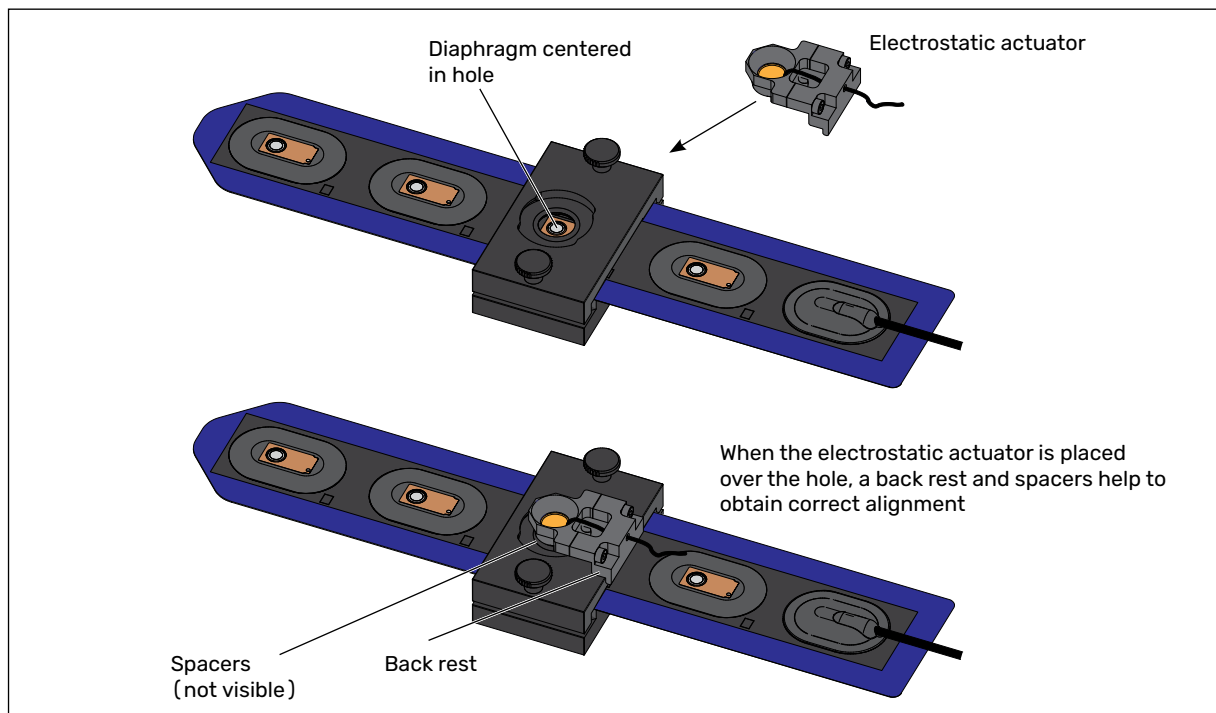

Fig. 7. Placing the electrostatic actuator onto the line array calibration adapter.
The electrostatic actuator is easy to mount, you simply place it on top of the adapter as shown in Fig. 7 below. It must be placed in the middle between the two finger screws. When this is the case and the backstop rests against the adapter, the actuator will be located over the center of the hole. Three distance legs at the front ensure that the actuator will rest on the sensor and that the distance to the diaphragm is correct.
2. Ensure that it is centered between the finger screws and that the backstop rests against the adapter as shown in Fig. 7 above.